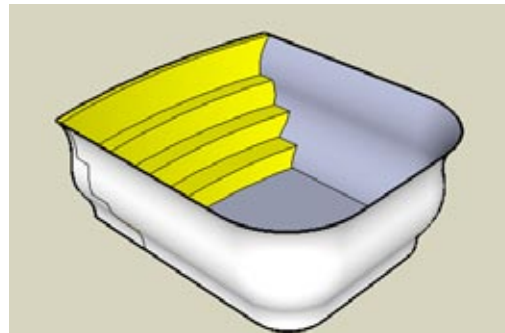

Figure 4-69
7. Run Intersect with Model on the entire model, and trim the walls and steps that extend past each other (Figure 4-69). Because the paths for these objects were extended, trimming is easy.